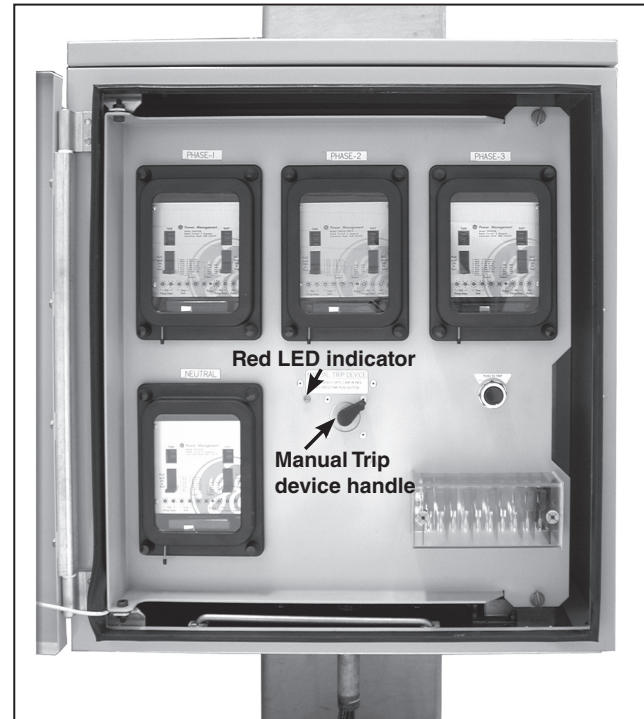
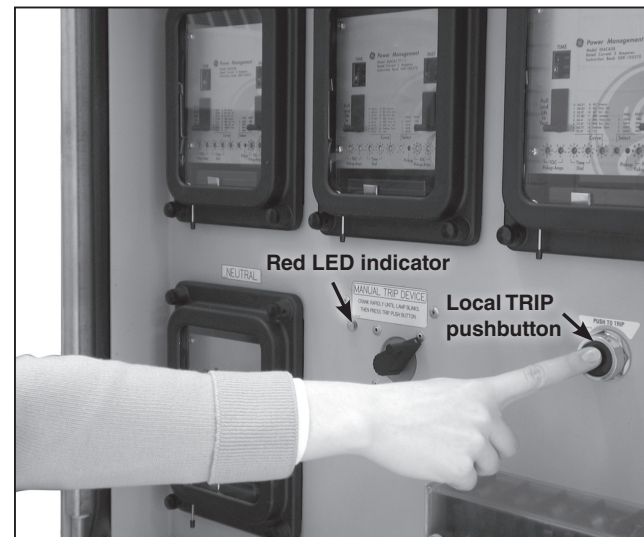

Figure 9. If the transformer is de-energized, crank the manual TRIP device handle until the red LED indicator starts flashing.
Figure 10. After the red LED indicator starts flashing, press the local TRIP pushbutton to trip Trans-Rupter II Transformer Protector.
- If the transformer is de-energized,** crank the manual Trip device handle to trip the Trans-Rupter II Transformer Protector. Crank the handle about 10 times. The red LED indicator will start flashing when the manual-trip device is fully charged. See Figure 9. Afterward, press the local TRIP pushbutton. The manual Trip device only retains its charge for about 1 minute, so press the pushbutton promptly. See Figure 10.